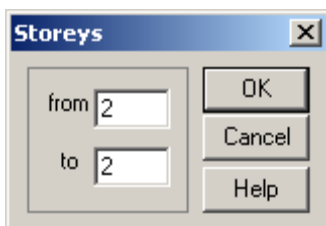

Figure 1.21.8 **Storeys** dialog box
- ⇒ In the **Storeys** dialog box (see Fig.1.21.8), define the following parameters: